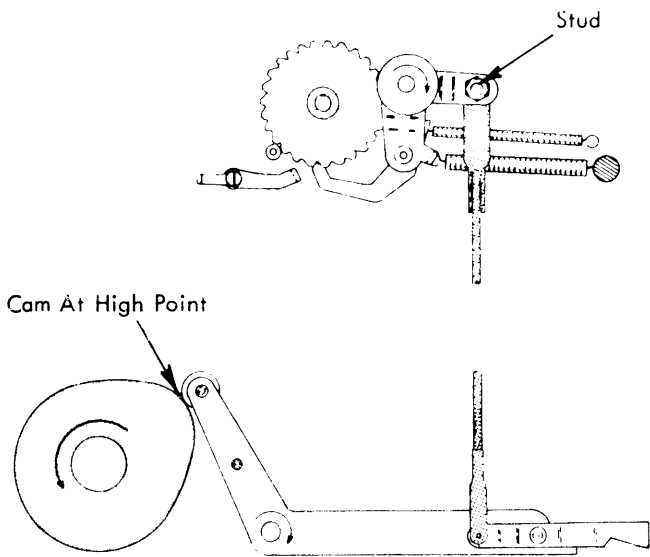

FIGURE 157. Index Link Stud Adjustment
- c. Adjust the index link stud forward or back in the slot of the pawl carrier so that one full tooth of motion is given the index pawl after it starts to drive the platen (Fig. 157).